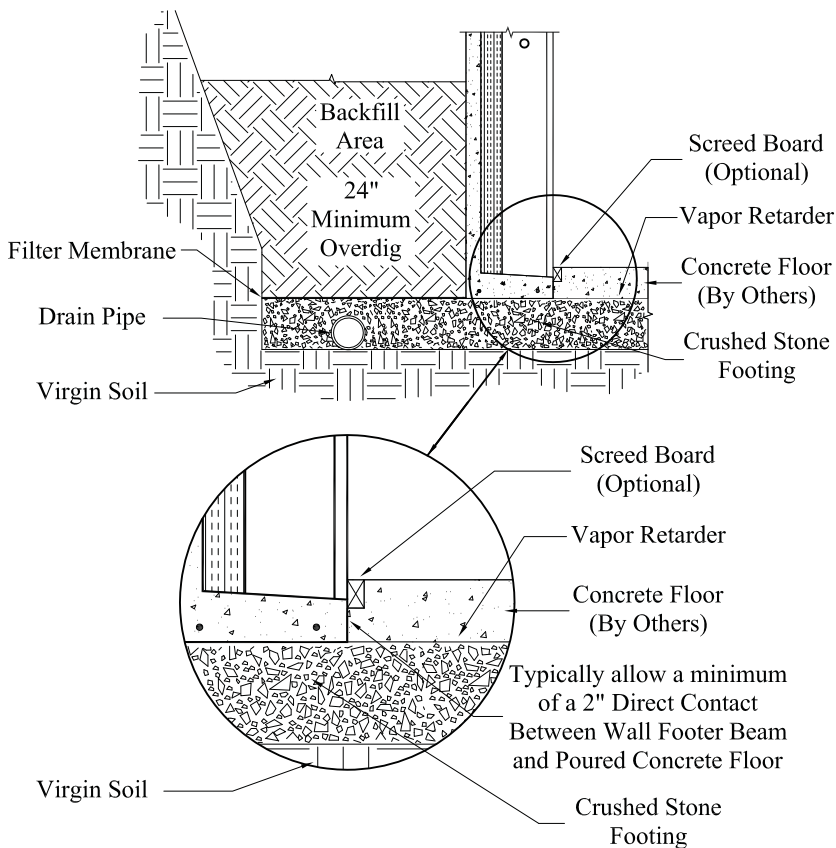

Figure 11
- Fasten a piece of lath at the desired height of the concrete floor to form a screed board (see Figure 11), **or** omit the screed board and allow concrete floor pour to flow between the stud cavities on top of the Superior Walls footer beam.
- Typically allow a minimum of a 2" direct contact between wall footer beam and poured concrete floor. (See Figure 11 below.)